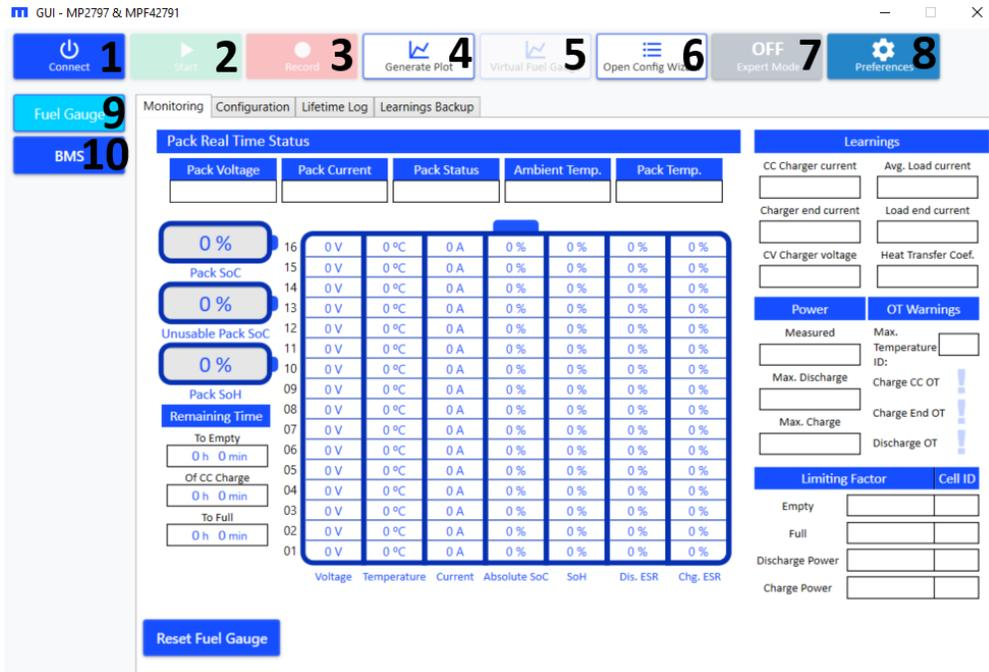
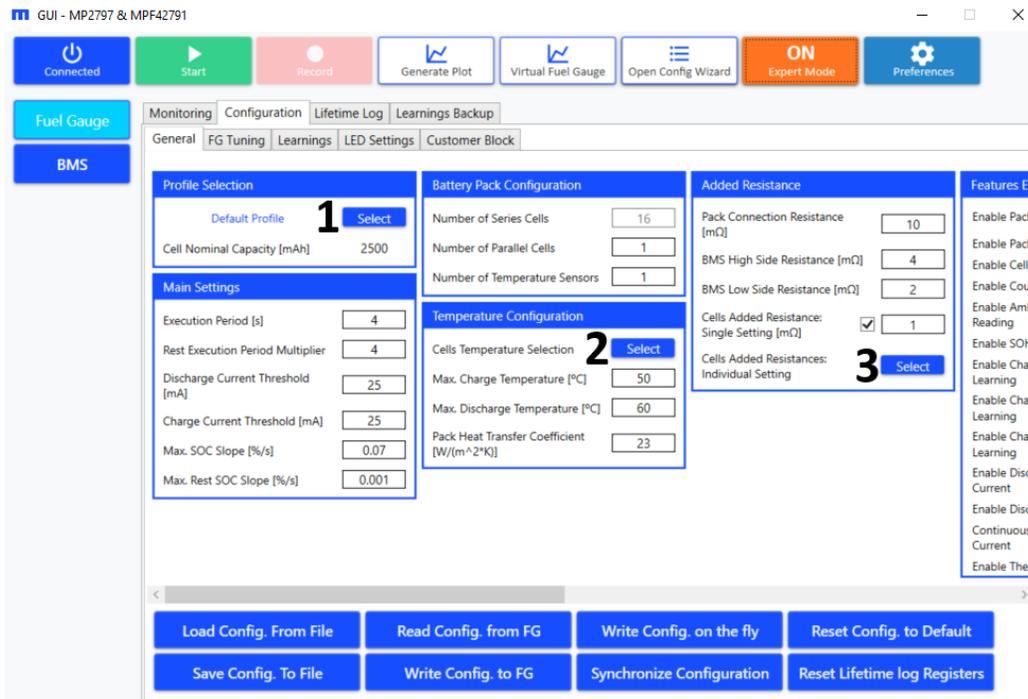

Figure 28: GUI Main Window
Figure 38: Fuel Gauge Configuration – Expert Mode
4. The main window should appear (see Figure 28 on page 24).
- Click “Connect” in the upper bar (denoted as “1” in Figure 28). A window with a drop-down menu should appear.
1. Click “Preferences” (denoted as “8” in Figure 28 on page 24). The Preference window should open.
- Click “Open Config Wizard” (denoted as “6” in Figure 28 on page 24).
1. Select “Fuel Gauge” (denoted as “9” in Figure 28 on page 24).
3. To see the full set of registers to fine-tune the fuel gauge, select “Expert Mode” (denoted as “7” in Figure 28 on page 24). The full set of configuration registers should be displayed, as well as two extra sub-tabs: Learnings and Customer Block (see Figure 38). Figure 38 shows three “Select” buttons, discussed in greater detail below.
1. Click “BMS” (denoted as “10” in Figure 28 on page 24).
1. Click “Fuel Gauge” (denoted as “9” in Figure 28 on page 24).